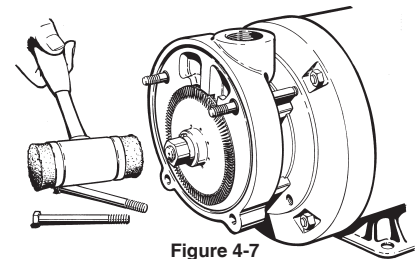

Figure 4-7
2. Remove the two (2) 3/8" nuts (#20), and the two (2) 3/8" X 4" bolts (#19) from the cover. (#2)
4. Remove the impeller (#11), refer to Figure 4-7. The impeller is a slip fit and, under normal conditions, can be removed by gently tapping on the end of the shaft sleeve with a mallet. Leave the impeller key (#23) in place.